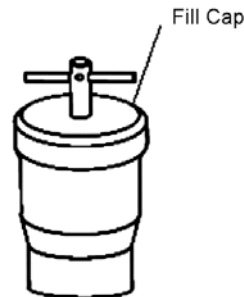

Figure 1-15 Oil Fill Port
- (c) Install the oil pan drain plug and add oil to the engine through the oil filler port. Refer to Figure 1-15.